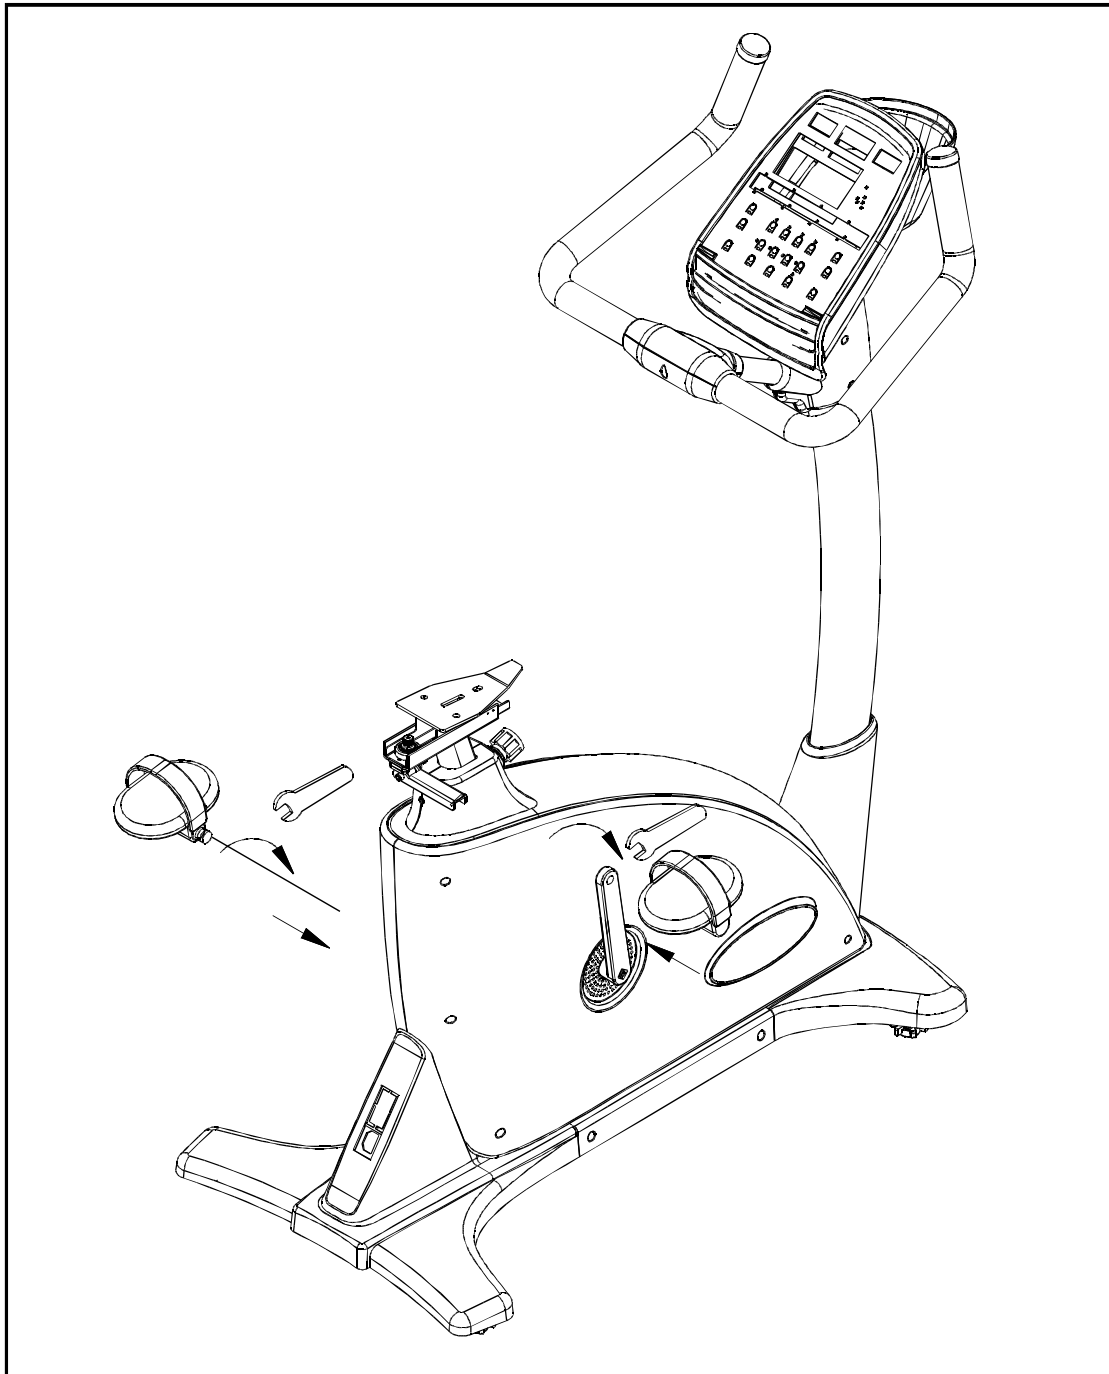

Fig.9
STEP 4. Be very careful in securing pedals to the pedal cranks. Otherwise, pedals and crank threads can easily become stripped and must be replaced. Note that left and right side designations refer to the user's left and right sides, as the person exercises on the bike. Put the pedal marked "R" on the right crank fitting. Turn the pedal stem clockwise by hand until you feel it smoothly thread into place. Then use the pedal wrench to secure the pedal firmly on the crank. Put the pedal marked "L" on the left crank. Turn the pedal stem counterclockwise by hand until you feel it smoothly thread into place. Then use the pedal wrench to secure it firmly in place on the crank. See Figure 9.